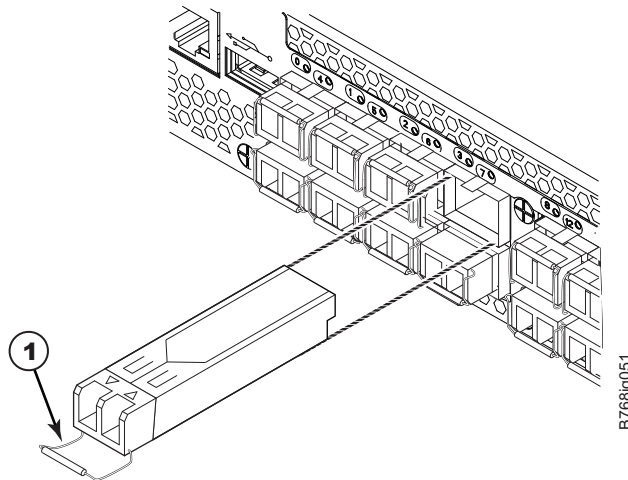

Figure 35. Removing and replacing an SFP+ optical transceiver with a wire bail
2. Using the hooked end of the tool, pull the bail (wire handle) **1** away from its pivot point and out, sliding the transceiver out of the port (Figure 35 on page 94).
1. For SFPs and SFP+ transceivers with wire bails, make sure that the bail (wire handle) is in the unlocked position. Align the optical transceiver so that the key is oriented correctly to the port (Figure 35). Insert the transceiver into the port until it is firmly seated and the latching mechanism clicks, and then close the bail.